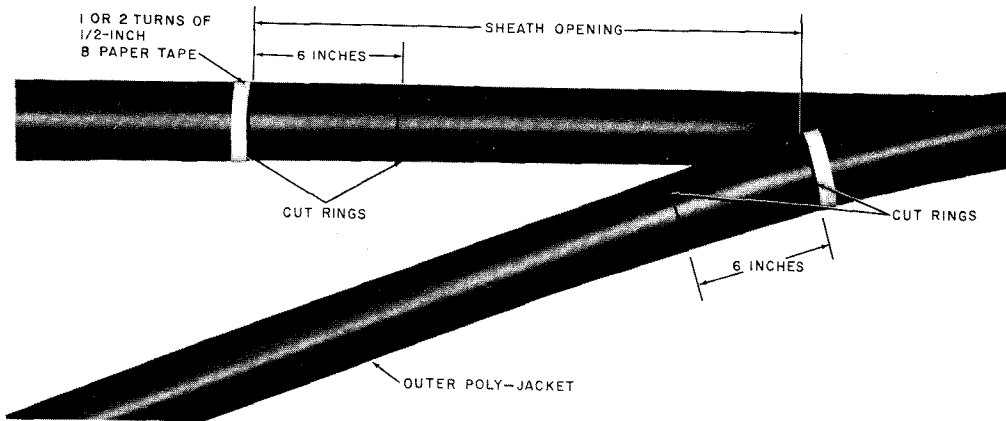

Fig. 2—Cutting Rings in Outer Poly-Jacket
3.01 Using an R-2761 Skinning Knife, or a chipping knife, *ring only* the outer polyethylene (poly-) jacket (Fig. 2) at the B Paper Tape marker and six inches away from the paper marker toward